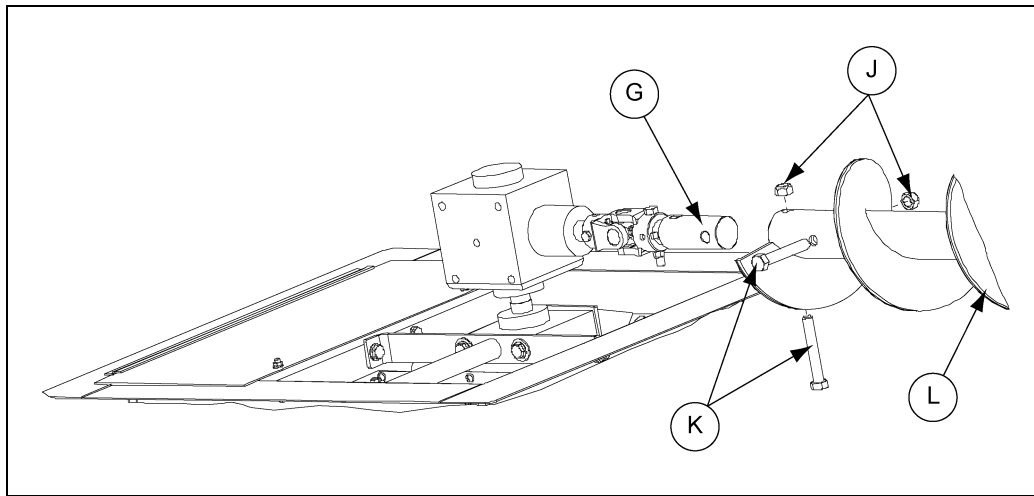

Figure 4AH
3. Fasten the first section of sweep flight to the U-joint flight shaft (G) with two (2) 5/8" x 4" grade 8 bolts (K) and stover nuts (J). Make sure that the dura-edge side of the sweep flight (L) faces the center of the bin. (See Figure 4AH.)